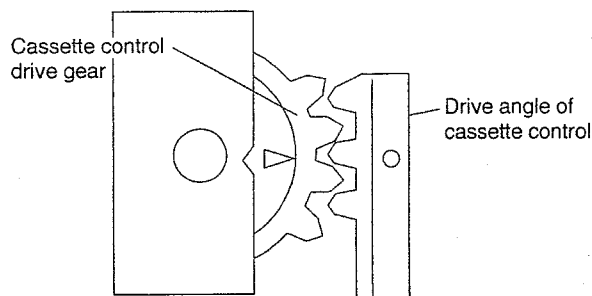

Figure 4-2.
1. Before installation of the cassette housing control assembly, make a connection between TP5001 and TP5002, both located at the center on your side on the main PWB, with a 22 ohm resistor. Plug in the power cord. The cassette control drive gear starts and stops just when a tally mark appears in the mechanism chassis window. Align this tally mark with the cassette control drive angle's mark, as shown in Fig. 4-2, to position the cassette control on the mechanism chassis.